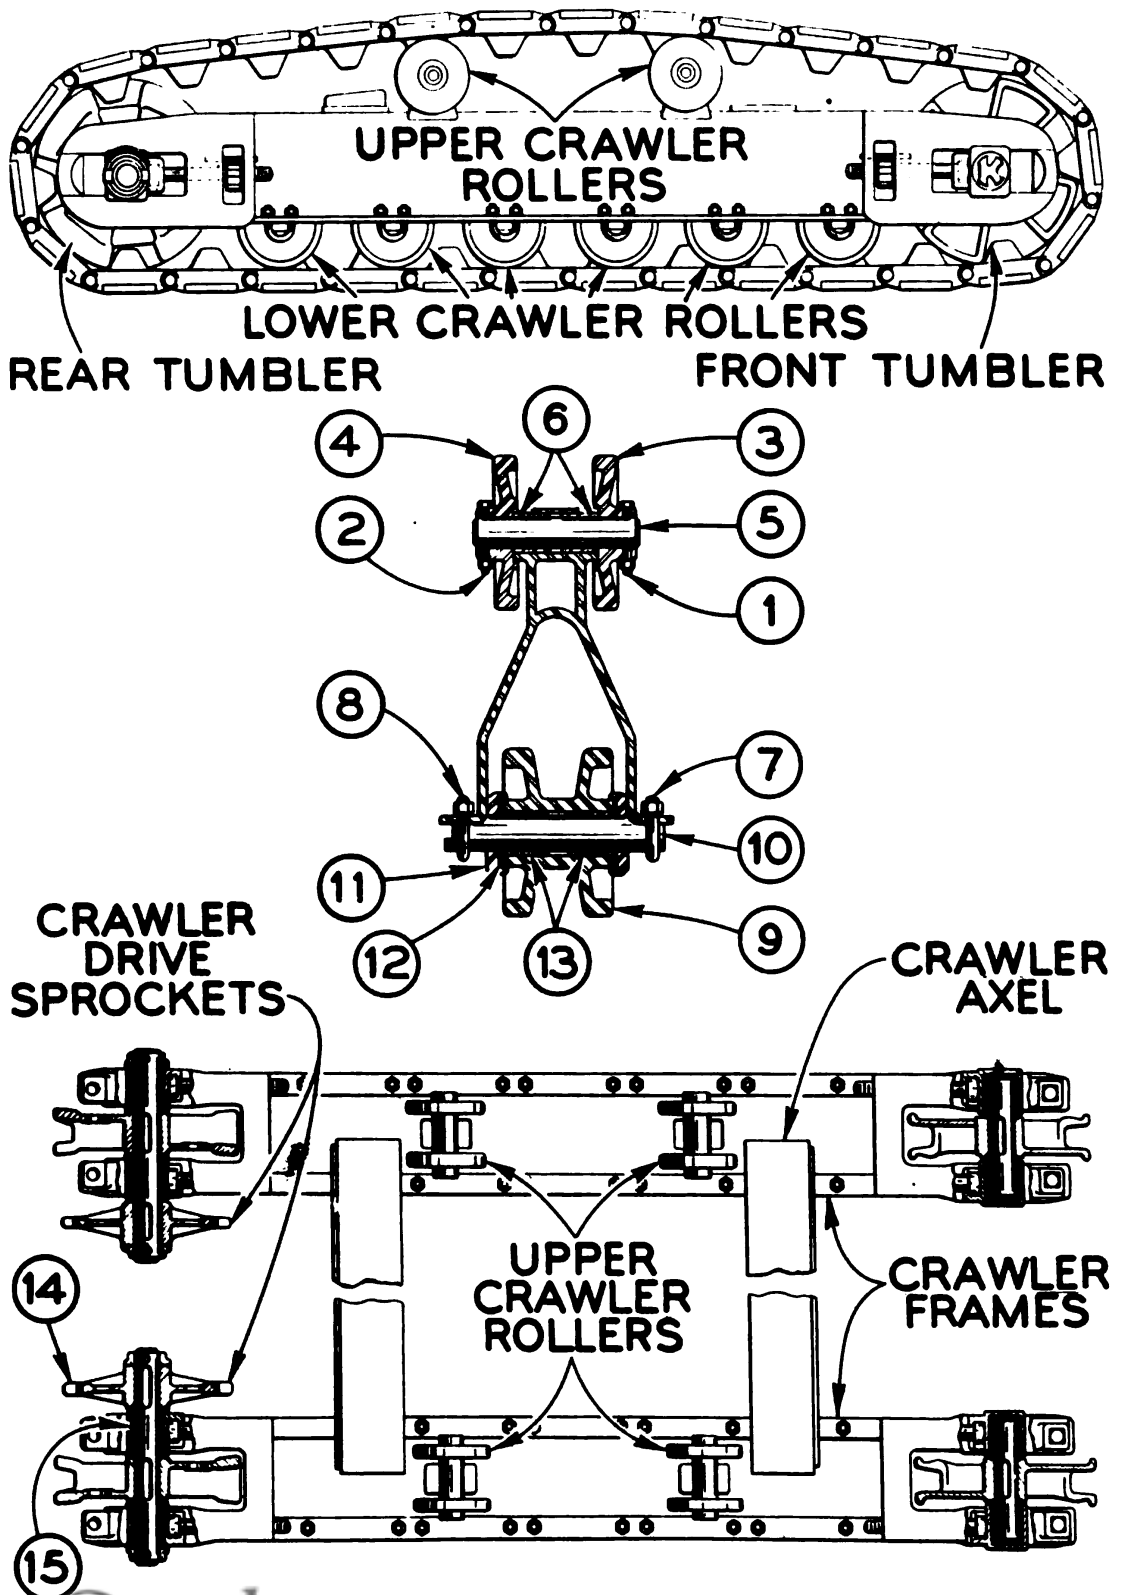

Figure 128
### TOP CRAWLER ROLLERS Figure 128
### LOWER CRAWLER ROLLERS Figure 128
Place the machine on firm level ground and prepare crawlers by blocking and by slacking the top crawler shoes the same as for removal of front crawler tumbler described on Page 157. Remove lock pin (5) and screw adjusting nut (6) on adjusting bolt (7) - on both sides of tumbler - thus releasing the chain and shoe adjustment. Select a shoe pin at (3), and drive out pin. Let the lower end of the shoes fall to the ground and roll the upper end back off the tumbler, -tying it with wire. Split traction chain as described on page (202). Remove tie bar and shim (4) on both sides of the multiplane frame. Remove adjusting nuts (6) from adjusting bolts (7) on both sides of the tumblers. Roll the tumbler assembly out. Remove pins (9) and drive collars (10) off the shaft. Slide bearing box (8) off the shaft. Press sprocket (14) Figure 128 off the shaft and remove sprocket key. Slide bearing (15) Figure 128 off the shaft. NOTE - Tumbler and shaft are assembled at approximately 10 tons press fit.
Slide bearing (15) Figure 128 on the shaft. Put in sprocket key and press sprocket (14) Figure 128 on the shaft. Put bearing (8) on the shaft. Oil the threads of the adjusting bolts (7) and put the bolts into bearing boxes. Roll the assembly into place in the crawler frame, put on adjusting nuts (6) and screw them up as far as possible to draw the bearing boxes and tumbler into the frame. Put on collars (10) and pins (9). Put some washers behind collars (10) to compensate for thrust wear if necessary. Replace shims and tie bars (4). Replace drive chain on sprocket and put in chain pin and key. Lower top crawler shoes to the tumbler. Lift the bottom shoes into place on the tumbler and hold them with a bar or jack while lining up shoes and inserting pin (3). Insert key in shoe pin. Pump grease into bearings. Remove blocks from under the shoes at the top of crawler frame. Adjust drive chains as directed on Page (93), Operation Section.